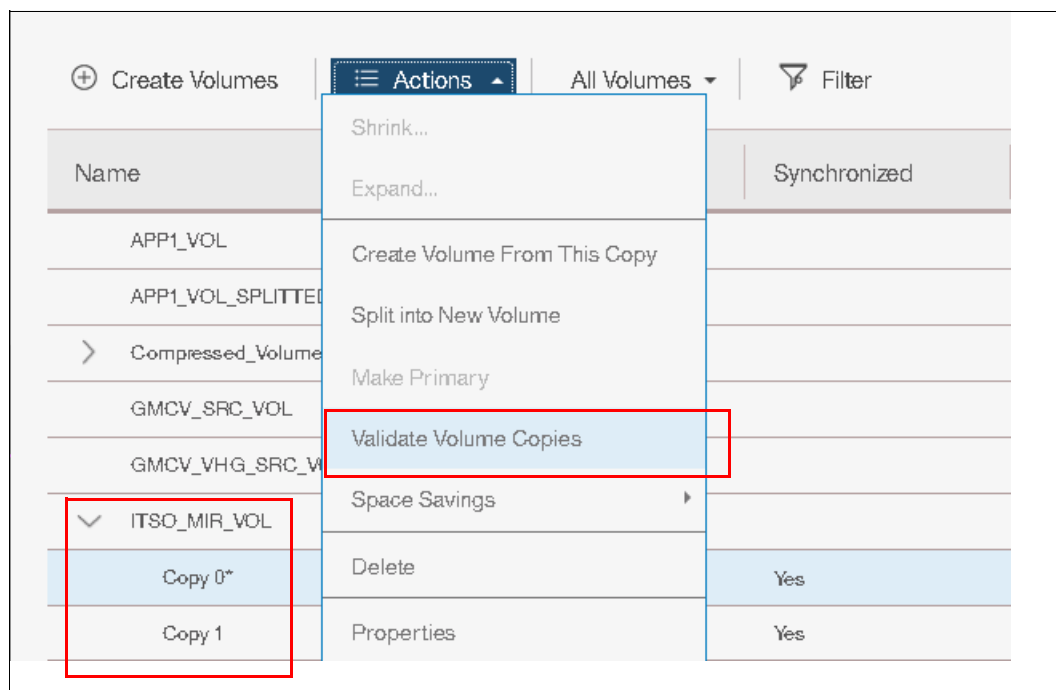

Figure 8-70 Actions menu: Validate Volume Copies
1. From the Actions menu, select **Validate Volume Copies**, as shown in Figure 8-70 on page 395.